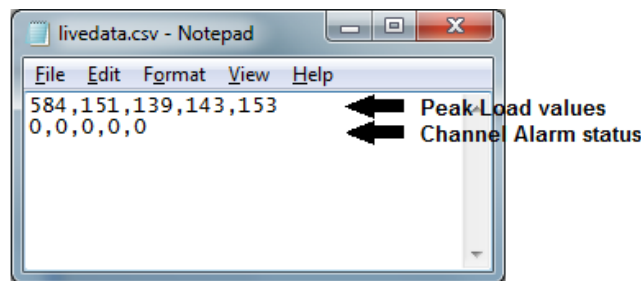

Figure 2-29: livedata.csv File
- The "livedata.csv" file contains the most current peak load values for each channel as well as their corresponding alarm status. A sample file is shown below in Figure 2-29.